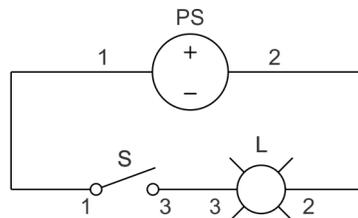
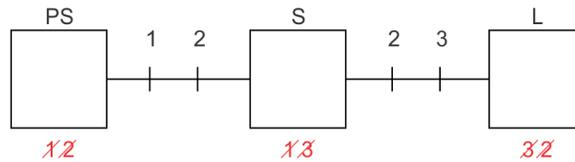

Figure 2. Component identification.
Figure 4. Transfer the wire numbers from the schematic diagram to the electrical box showing the physical location of the component.
- In the schematic diagram, identify the wires that connect to the first component with a number. Numbers 1 and 2 are used to identify the wires that connect to the power source (PS) in the example shown in Figure 2.
- Transfer the wire numbers from the schematic diagram, in Figure 2, to the boxes showing the physical location of the components. Indicate the numbers below the electrical boxes as shown in Figure 4.